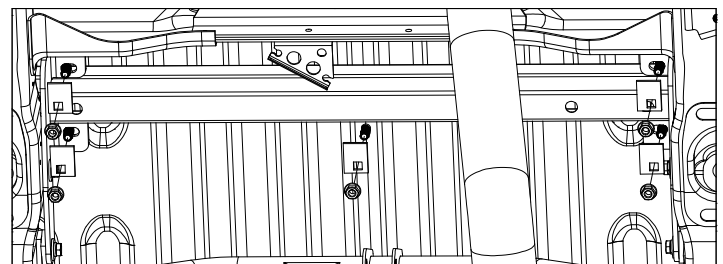

Figure B5: View looking up at bed.
4. **Fasten the forward mounting rail.** Install an offset square hole washer and 1/2" flange nut on each of the carriage bolts passing down through the bed as shown in Figure B5. Do not fully tighten at this time.